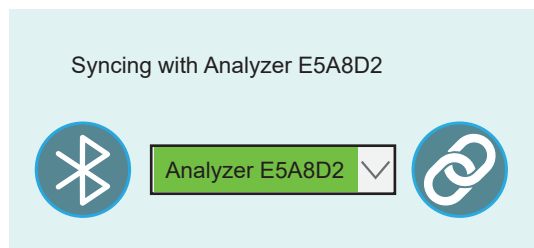

Figure 30. Syncing with Labmaster LUCIA™ Vet Analyzer
3. Tap the Synchronize icon to import data from connected LUCIA Vet Analyzer. See Figure 30.
- **Syncing with Analyzer** message will be displayed above drop-down menu. See Figure 30.